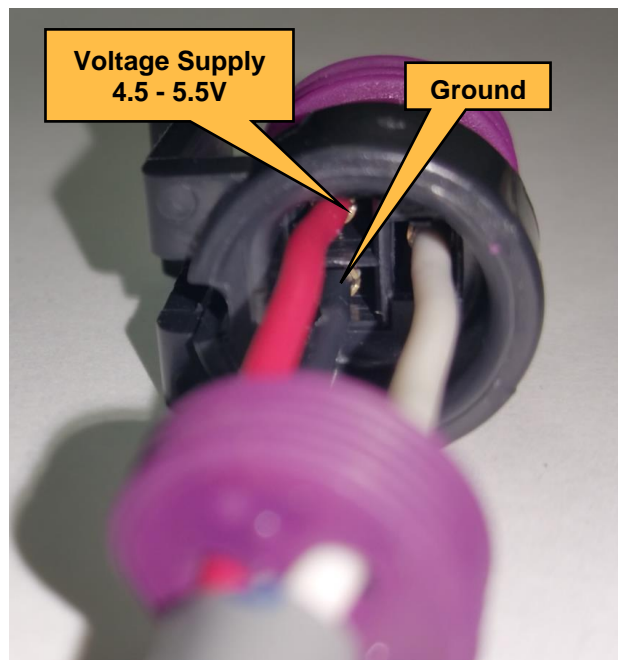

Figure 8
- 4) The wire terminals will now be exposed. Using a voltmeter touch the positive lead to the pin on the red wire (Figure 8) and the negative lead from the voltmeter to the black ground wire to confirm correct voltage 4.5-5.5V dc is being supplied. If there is no voltage at the red wire in the connector, inspect the red wire to the control box or throttle control and probe it at its source. If there is no voltage here, the control box or throttle control is faulty and must be replaced.